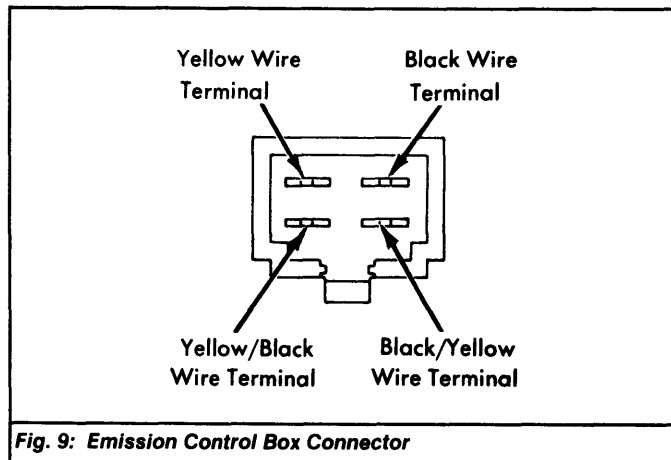

Fig. 9: Emission Control Box Connector
2) Connect voltmeter positive probe to Yellow/Black wire terminal at emission control box connector. Connect negative probe to known good ground (Black ground wire). See Fig. 9. Start engine.